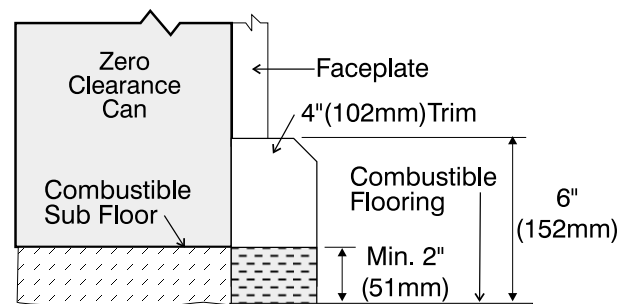

Figure 2
- b) No ashlip is required when U31/I31 insert is raised by 2" (51mm). See figure 2.